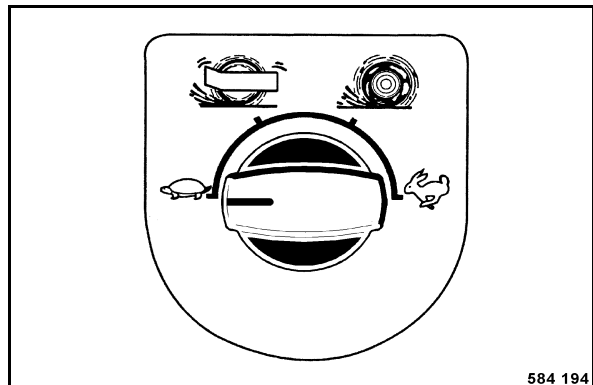

Fig. 54
- Select the desired travel speed range (Fig. 54).